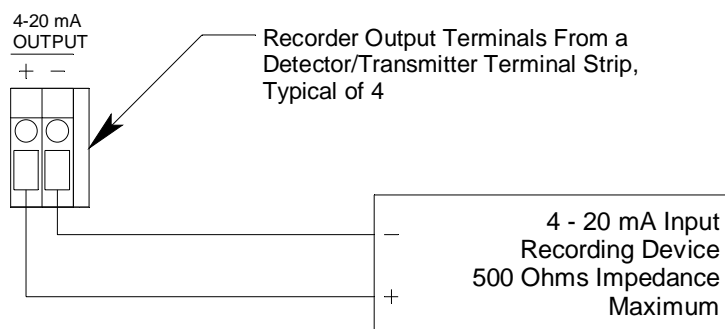

Figure 12: Recorder Output Wiring
6. Connect the leads from the recording device to the recorder output terminals of the selected active channels as shown in Figure 12 below.